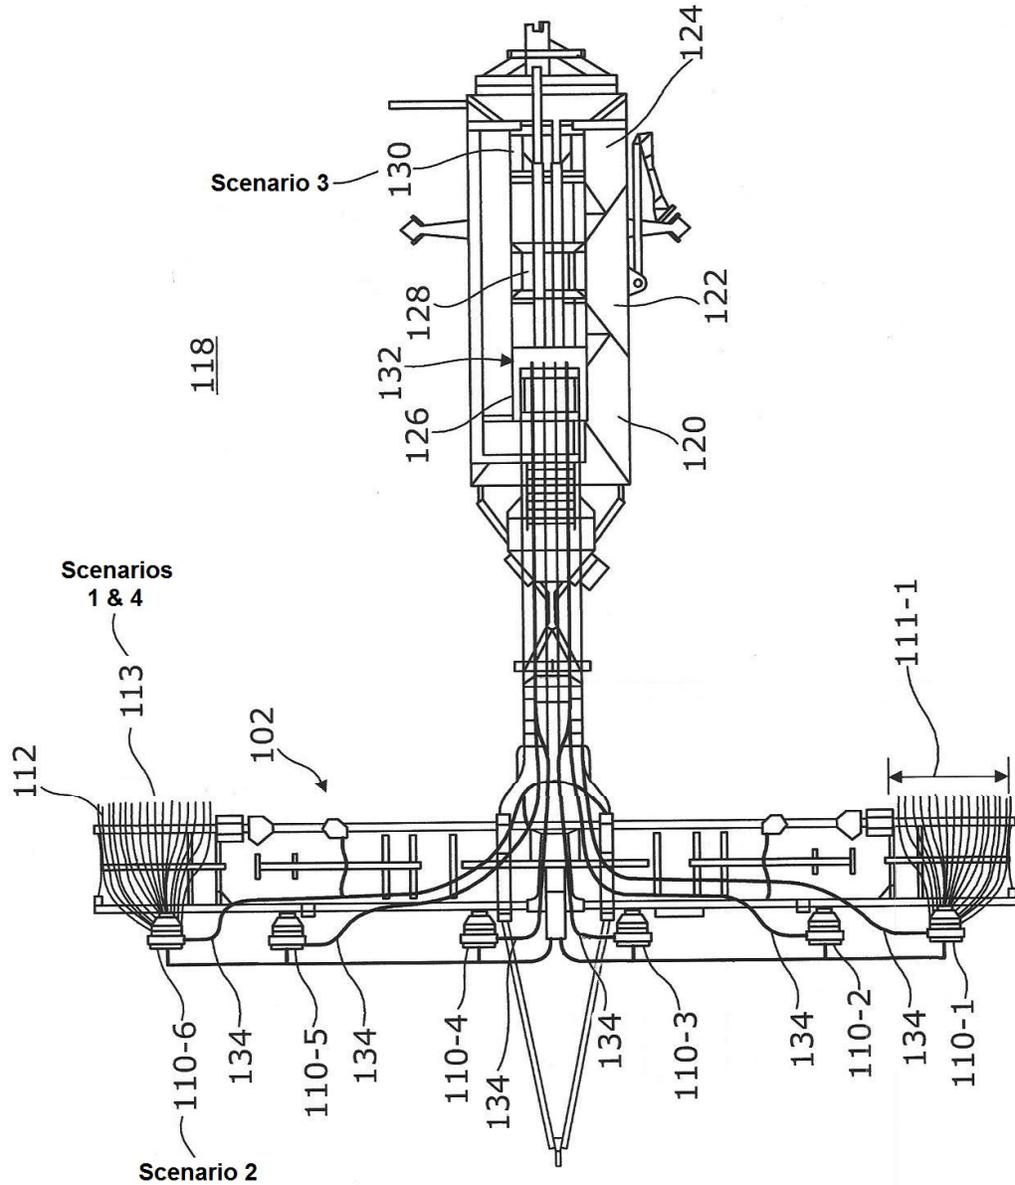

Figure 1 - Air Seeder Example
NOTE: For visual clarity, row hoses (112) for most sections were omitted from **Figure 1**.